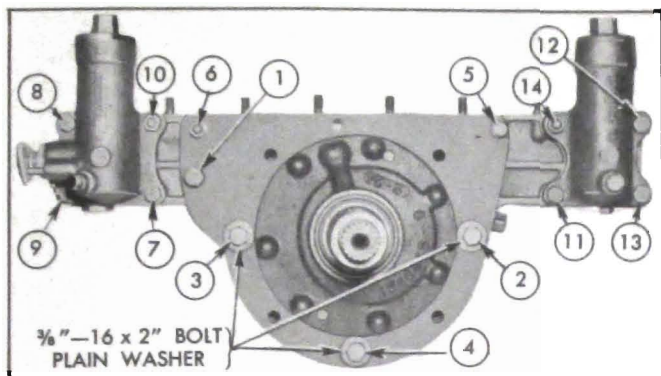

Figure 5-94—Reaction Shaft Flange and Accumulator Bolt Tightening Sequence
4. Install 3 special bolts ( $\frac{3}{8}$ "-16x2") with plain washers in positions marked 2, 3, 4 in figure 5-94. These bolts are for assembly purpose only. Install regular pump cover bolts, nuts, and lockwashers at positions marked 1, 5, 6. Coat threads of bolt No. 5 with Permatex No. 3.
13. Referring to figure 5-94, tighten all bolts and nuts (1 through 14) to 5 ft. lbs. torque in the numerical sequence shown. Following the same sequence again, tighten bolts 1 through 4 to 35-40 ft. lbs. and the remaining bolts and nuts to 20-25 ft. lbs.